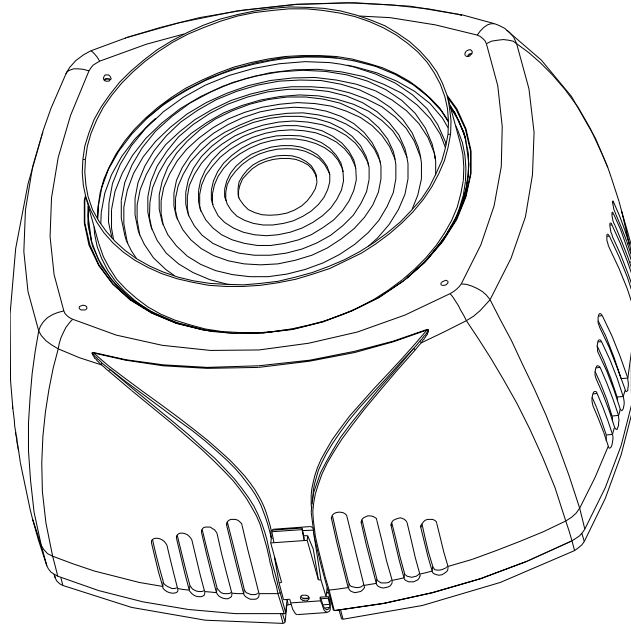

Figure B.9. Installed Light Snout
7. Rotate the clips back in place and tighten the four screws. Refer to Figure B.9. Check to ensure the lens is secure by attempting to rotate it.